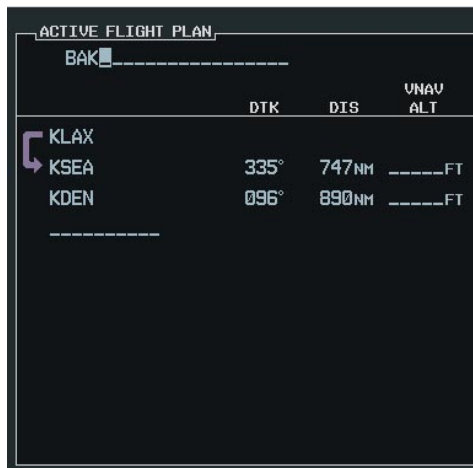

Figure 5-66 Flight Plan Title/Comment Field
- 3) Turn the **FMS** Knobs to change/edit the title (Figure 5-66).